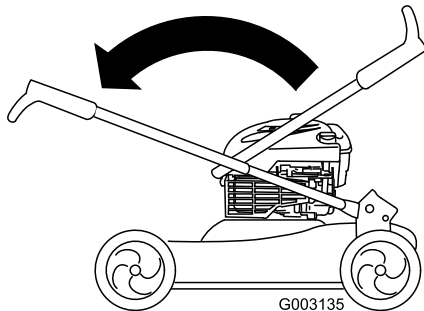

Figure 4
1. Carefully move the upper handle forward until the handle halves are in line and nest together as shown in Figure 4.